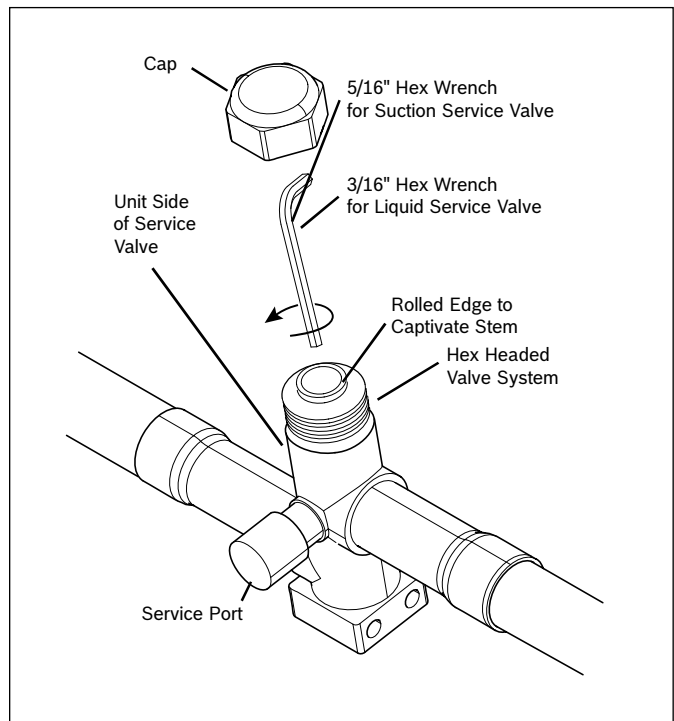

Figure 27
1. Remove Service Valve Cap (Figure 27).